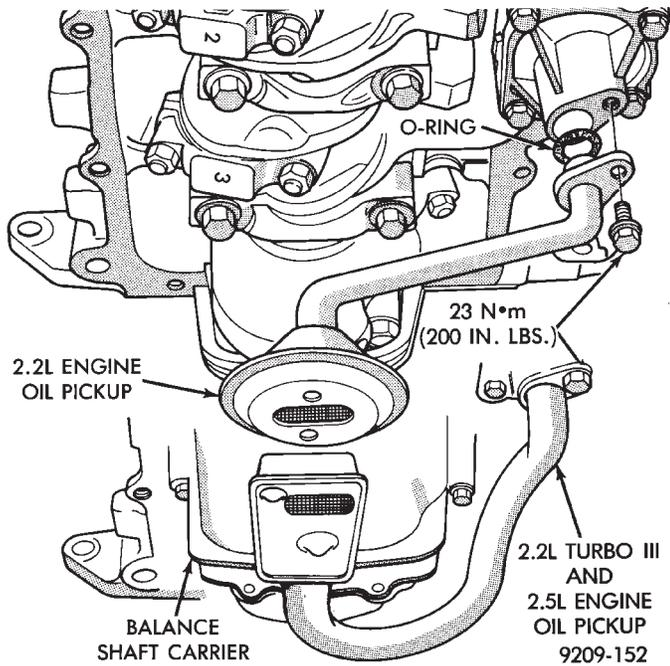

Fig. 4 Oil Pick-Up
A formed steel oil pan provides lower engine protection as well as serving as the engine oil reservoir (Fig. 1). Pan side flanges to block are sealed with gaskets. The oil pickup tube for some 2.2L engines have a circular strainer and cover. The 2.5L engine pickup is also unsupported and the lower end has a box type strainer (Fig. 4).
- (1) Remove screw on pump cover holding oil pick-up tube to oil pump (Fig. 4).
- (2) Remove oil pick-up tube. **When reinstalling make sure to use a new O-ring on pickup tube.**